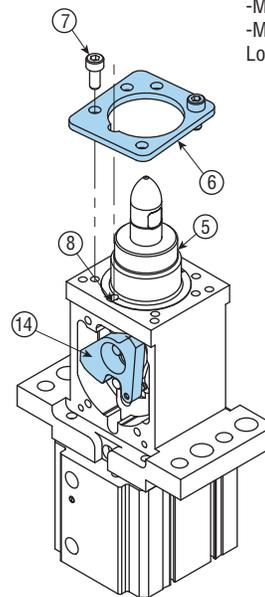

FIGURE 1
- 2) Install the part support (item 5) with the adjustment slot over the adjustment screw (item 8). Install the flange plate over the part support aligning the adjustment screw and two holes as shown. Hand tighten two times (item 7). (See Figures 1 and 2.)